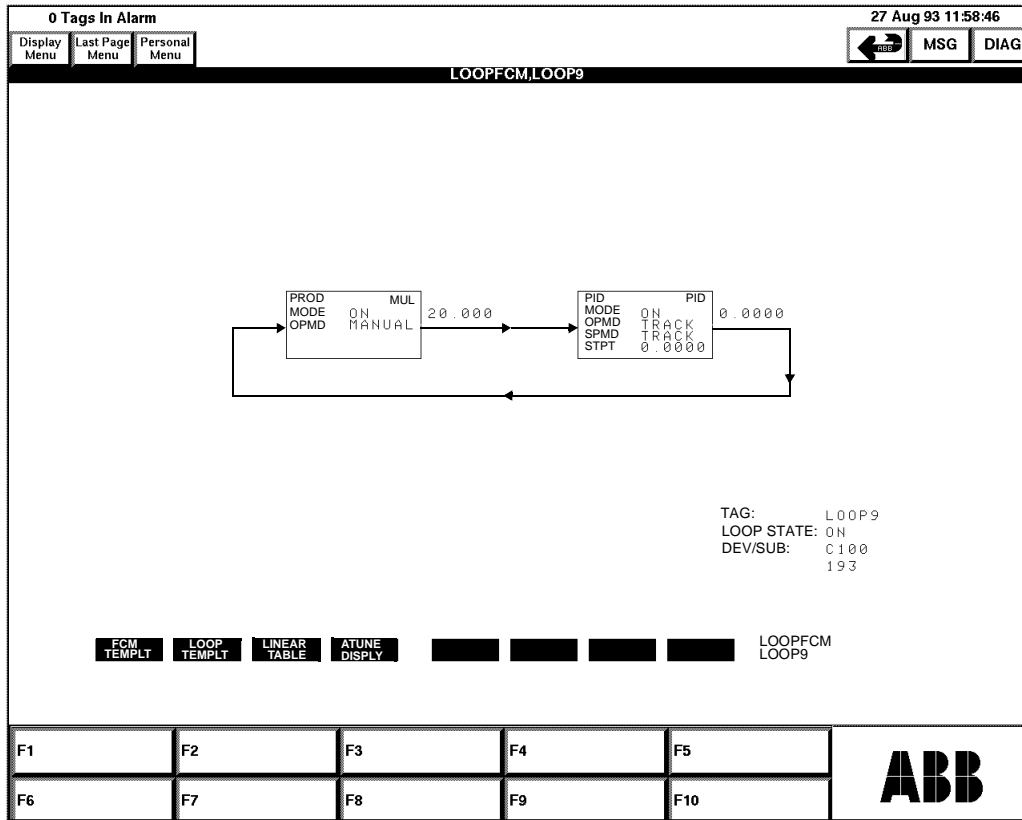

Figure 2-3. Example of a Loop/FCM Display
- The Loop/FCM Display, shown for a typical PID control loop in Figure 2-3, visually indicates the relationships between the various functional modules that make up a loop. This display allows a user with the proper authority to perform additional tuning functions not available on the Loop Detail Display. To avoid ambiguity the Loop FCM display shows the structure of the loop. It gives the sources of inputs, the destination of the results, and the status of the FCMs.